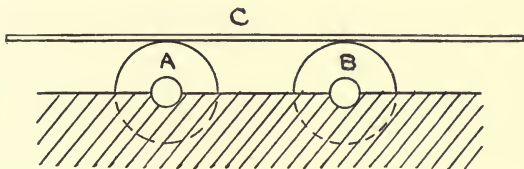

Fig. 1.
1. *A* and *B* are two horizontal cylinders (see Fig. 1) turning freely in fixed bearings, *A* making one revolution per second and *B* one revolution in two seconds. The mass of each cylinder is 40 lbs., the radius is 6 inches and the radius of gyration is 4 inches. A plank *C* weighing 80 lbs. is then gently laid across the cylinders. Calculate the velocity given to the plank when the velocities have once again become steady. Taking the coefficient of friction between plank and cylinder as  $\frac{1}{2}$ , determine how long this equalizing process takes, assuming that the weight supported on each cylinder is 40 lbs.